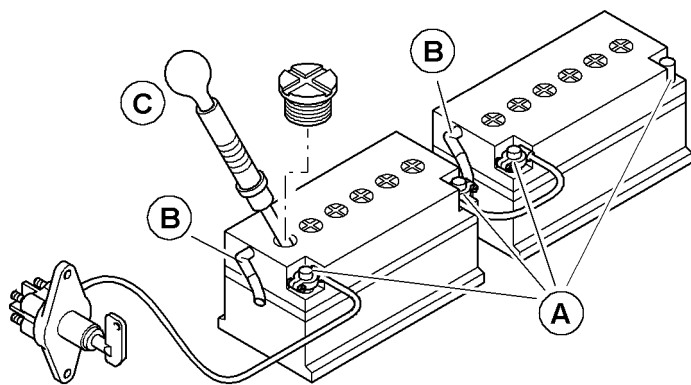

Fig. 5-64 Battery care
- ▶ Particular care should be taken to clean the pole ends and cable terminals **A** regularly and to then cover them with a thick layer of acidproof grease (see Fig. 5-64).
- ▶ Check the condition of the hoses regularly, particularly after installing a battery (see Fig. 5-64).